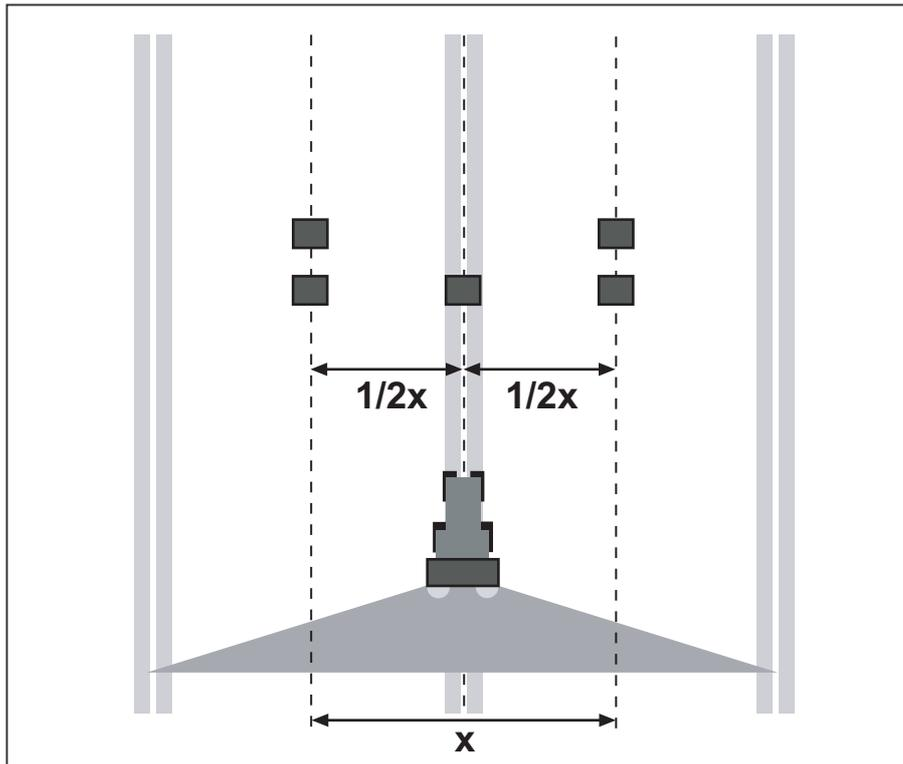

Figure 7.22: Layout for one passage
- Place two collecting vessels one after another at a distance of **1 m** in the overlap zones (between the tramlines) and one collecting vessel in the track (according to figure 7.22).